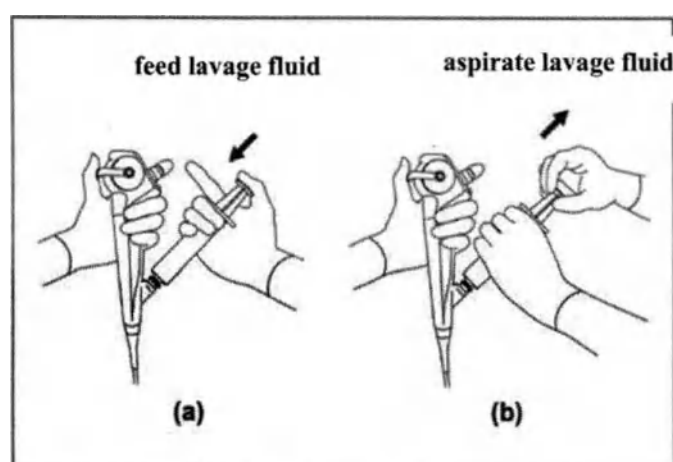

Fig 4.4
1. Securely insert a syringe filled with lavage fluid (e.g. saline) into the instrument channel port and press the plunger to feed lavage fluid. (Fig 4.4(a))
2. With the syringe attached, slowly withdraw the plunger to aspirate lavage fluid. (Fig 4.4(b))